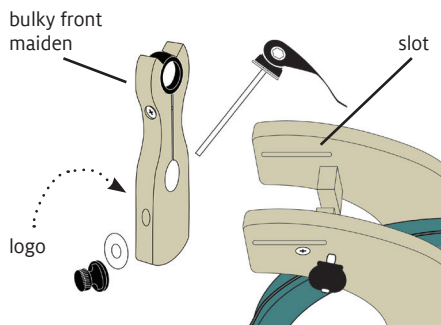

FIGURE 2: INSTALL BULKY FRONT MAIDEN
4. Orient the bulky front maiden with the logo at the front of the wheel (Figure 2).